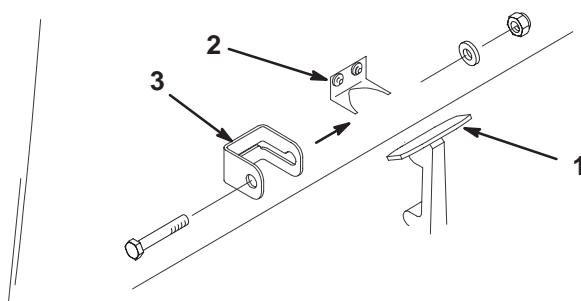

Figure 8
1. Unhook the hood latch from the hood latch bracket (Fig. 8).
2. Slide the hood lock bracket onto the latch (Fig. 8).
3. Hook the latch onto the hood latch bracket (Fig. 8).
4. Insert a bolt (1/4 x 1-1/2 in.) through the hood lock bracket and secure it with a flat washer and locknut (Fig. 8).